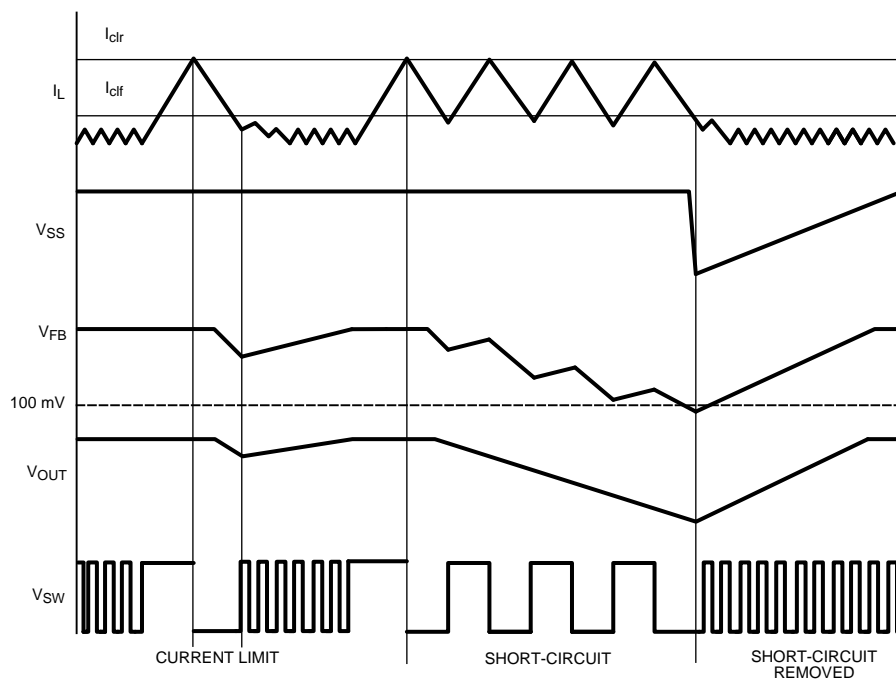

Figure 26. Current Limit Conditions
A current limit condition will cause the internal soft-start voltage to ramp downward. After the internal soft-start ramps below the Feedback (FB) pin voltage, (nominally 0.6 V), FB will begin to ramp downward, as well. This voltage foldback will limit the power consumption in the device, thereby protecting the device from continuously supplying power to the load under a condition that does not fall within the device SOA. After the current limit condition is cleared, the internal soft-start voltage will ramp up again. Figure 26 shows current limit behavior with V_{SS} , V_{FB} , V_{OUT} and V_{SW} .